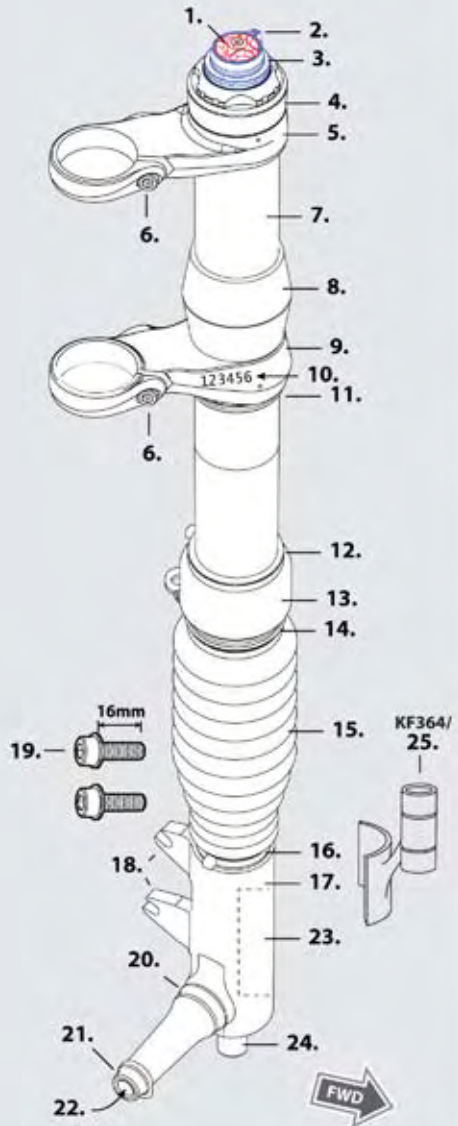

Figure 3.
USE ONLY 16mm (Cannondale kit # LEFTYBOLTS/). Longer bolts can result in contact with the brake rotor causing severe damage. Check clearance between the bolt tips and rotor after remounting the caliper. See Figure 3 item (19).